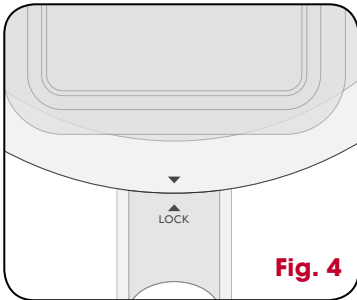

Fig. 4
2. The processor lid is correctly aligned and locked into place (see Fig.2, Fig.4)
3. Place the processor lid on top of the processor bowl and lock into place (see Fig. 4).